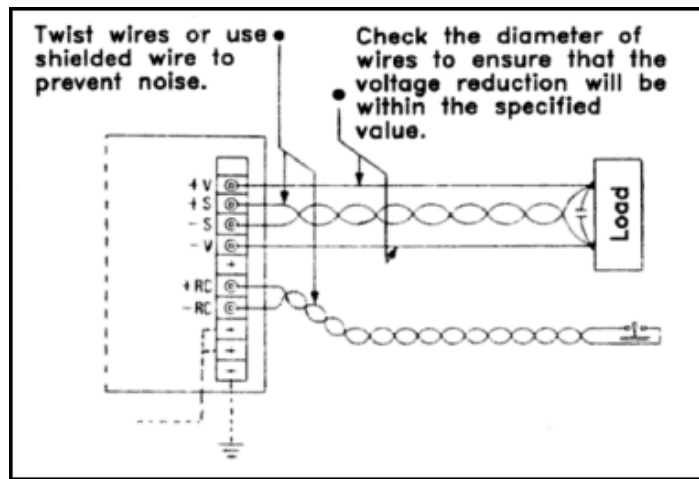

Fig. 12
The output of some power supplies can be controlled by supplying an appropriate signal to the RC+ and RC- terminals. Normally a short (0 volts) will turn the power supply's output on. An open-circuit (>4 volt) will turn the output off. These power supplies will be shipped with a jumper across the RC+ and RC- terminals. However you should always refer to the data sheet as some remote controlled power supplies use different control signals. See Fig 12.
Power Supplies equipped with a Remote Voltage Sense capability can detect a voltage drop at the load. This feature is especially useful when the power supply and the load are connected by long cables. Power supplies with the Remote Sense have +S and -S terminals (as shown in Fig. 12). When the +S and -S terminals are connected to the load side of the output, the power supply will be able to detect any voltage drop at the load. The power supply will raise the output until the correct voltage is provided at the load terminals. See the HRP(G) range for remote sensing on power supplies of 150 to 1000 Watt capacity.